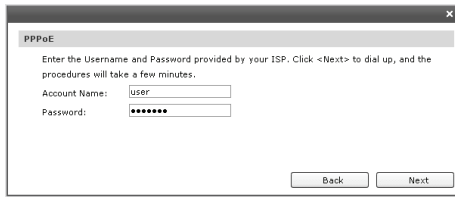

Figure 5-8 WAN Connection Type - PPPoE
- 1) If you choose PPPoE, you will see the screen as the Figure 5-8 shows. Enter the Account Name and Password provided by your ISP.